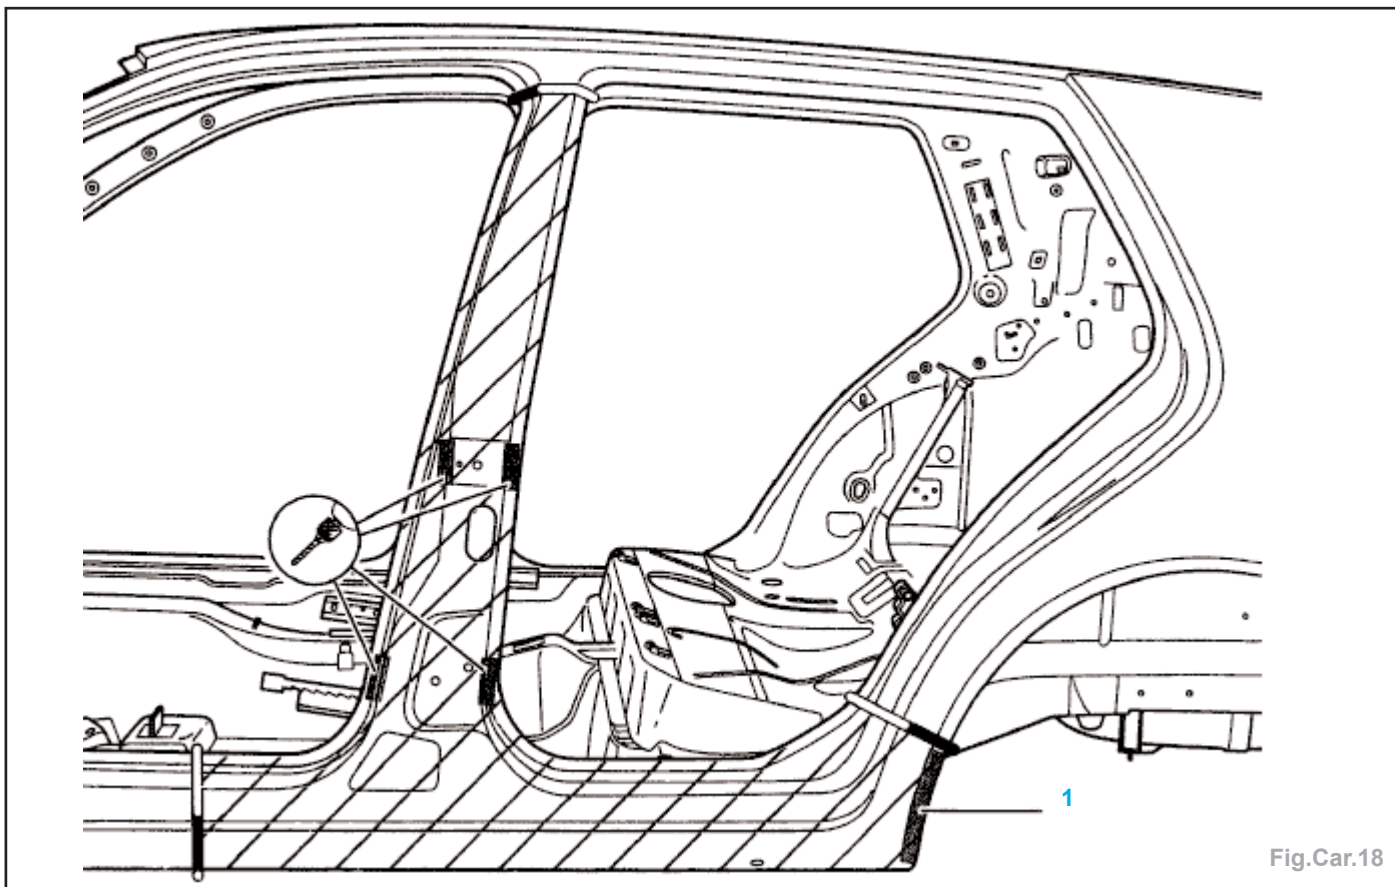

Fig.Car.18
- Zone collée (1) (Fig.Car.18).